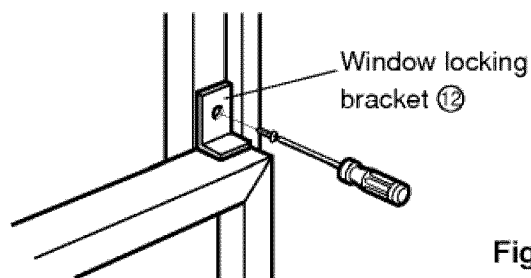

Fig. 9
- 12 Attach the Window Locking Bracket 12 with a Type C screw 7. (See Fig. 9)